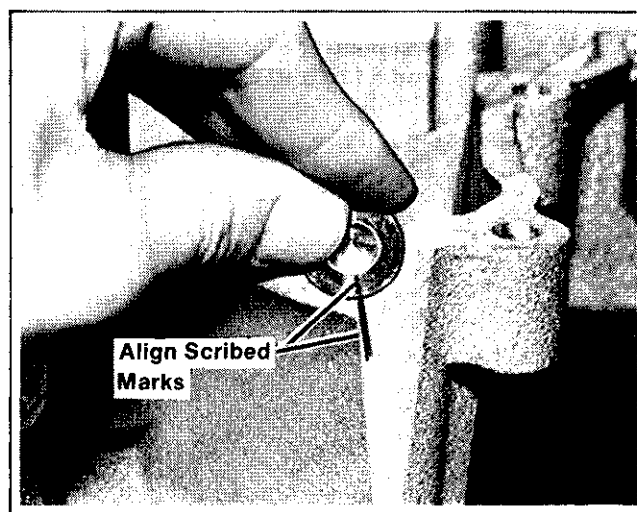

Figure 8-15. Installing Machined Camshaft Bore Plug Into #1 Half
4. Lubricate the O-ring with engine oil or liquid soap. Insert the plug into the camshaft bore in the #1 crankcase half. When reinstalling a used plug, make sure the marks scribed on the plug and crankcase during disassembly are aligned. See Figure 8-15.